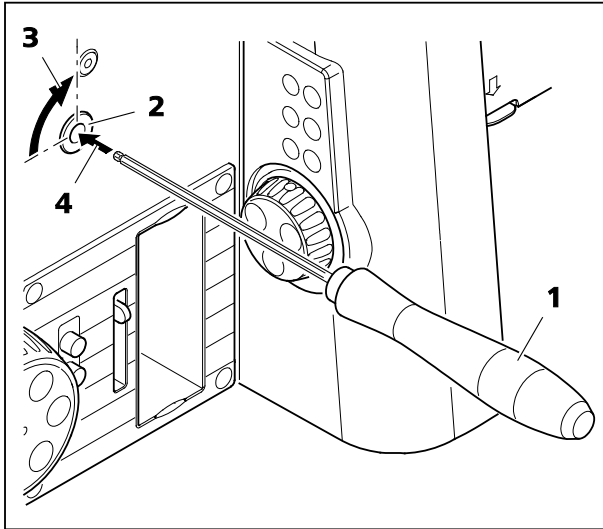

Fig. 37 Deactivating the high-performance focus
- Using the AF 3 ball-head screwdriver (Fig. 37/1) release the two locking pins (Fig. 37/2) on the right **and** left of the stand (Fig. 37/3) by turning them **90 degrees anticlockwise** (Fig. 37/4).